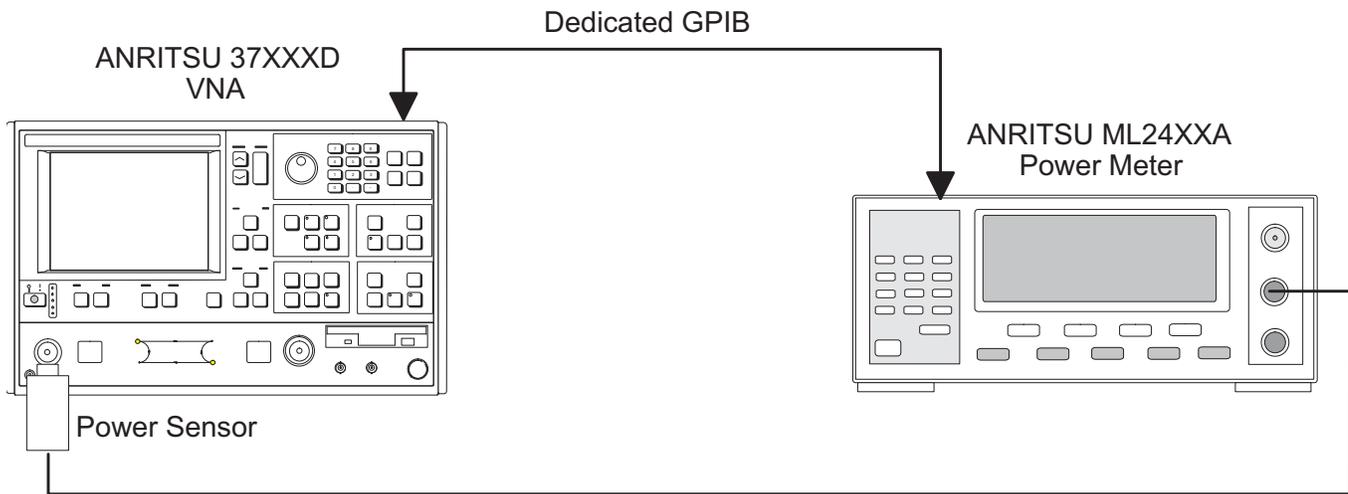

Figure 6-2. Equipment Set-Up for RF Power/ALC Calibration
- Step 3. Follow the directions displayed on the screen to set-up and connect the power meter to the VNA. Refer also to Figure 6-2. Select **START ALC CALIBRATION** from the menu.